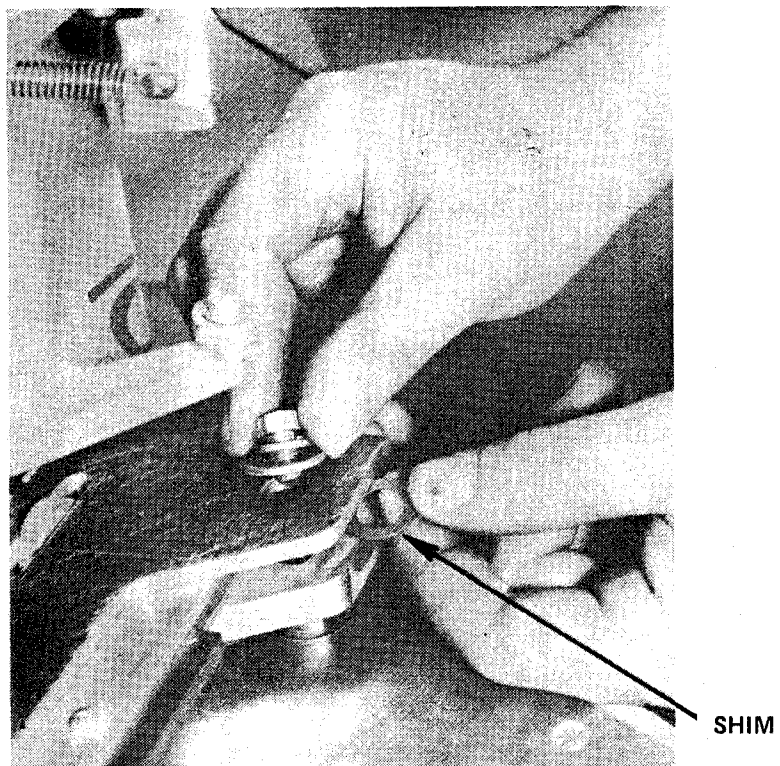

Fig. 93 — Shimming Between Throwing Arm Carrier and Top of Mainshaft Assembly.
12.3 Rim of target trapped under throwing arm guide rail because of high target shoulder or damaged (bent) throwing arm or platform. This can be identified by the following procedure: Safe release trap and remove Mainspring adjusting screw. Rotate throwing arm by hand from the cocked position in 3 increments of approx. 45 degrees, running a target under full length of rubber guide rail at each position. Note: Do not rotate throwing arm more than 360 degrees.	12.3 Add shim between throwing arm carrier and top of mainshaft assembly (See Fig. 93 page S-8) or replace or repair throwing arm or platform. For current guide rail height relative to target shoulder (See Fig. 16 page 5)